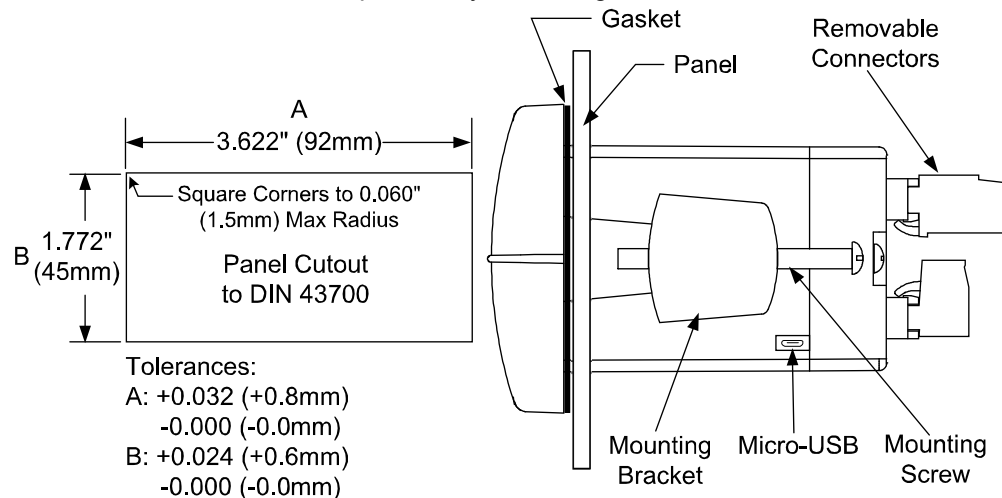

Figure 1. 1/8 DIN Panel Cutout Dimensions and Panel Mounting Details
- Prepare a standard 1/8 DIN panel cutout – 3.622" x 1.772" (92 mm x 45 mm). Refer to Figure 1 below, for more details.